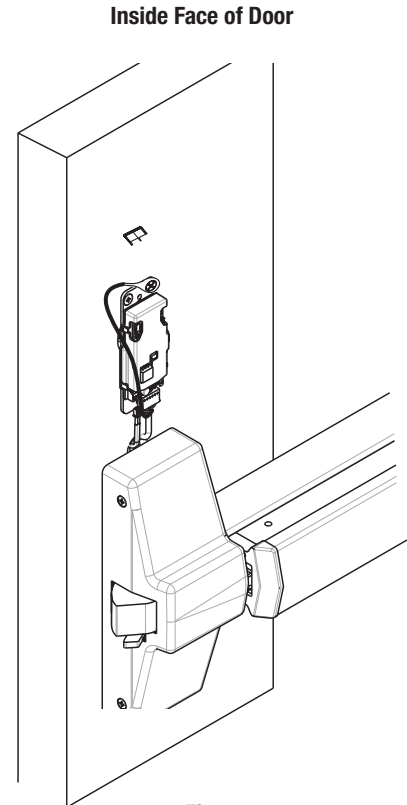

Fig. 9c
3. Twist into place, perpendicular with door (Fig. 9c).